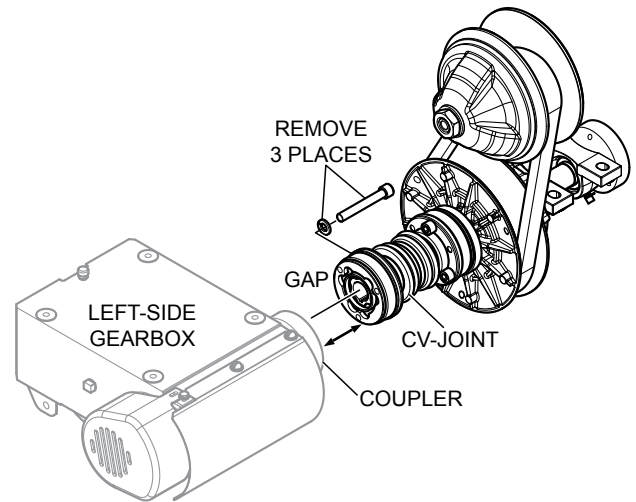

Figure 21. CV-Joint Removal
- Starting at the left-side gearbox, use a 1/4" allen wrench and remove the 3 bolts and lock washers that secure the CV-joint (Figure 21) to the left-side gearbox. Retain mounting hardware for later use.
- Once the CV-joint has been separated from the left-side gearbox coupler, push the CV-joint inward so that a gap (Figure 21) exists between the gearbox coupler and CV-joint.